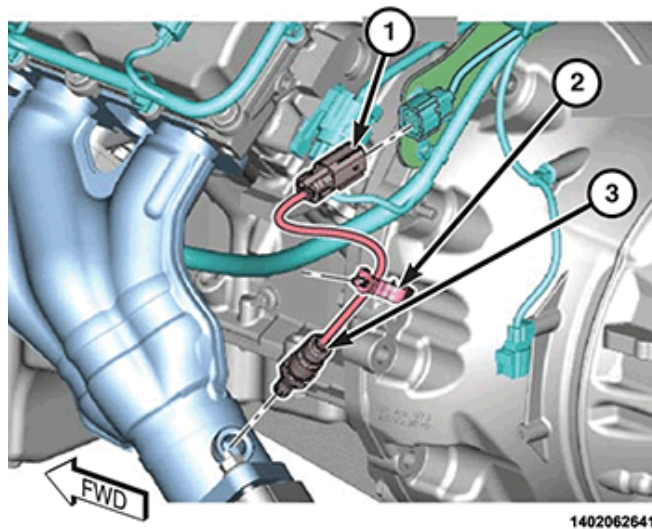

Figure 5 – Oxygen Sensors
9. Disconnect the oxygen sensor wire harness connector (1) and remove the harness from the retainer (2) (Figure 5).
10. Remove the oxygen sensor (3) from the exhaust manifold (Figure 5).
20. Install the oxygen sensor (3) into the exhaust manifold and tighten to 52 N·m (38 ft. lbs.) (Figure 5).
21. Connect the oxygen sensor wire harness connector (1) and secure the wire harness in the retainer (2) (Figure 5).